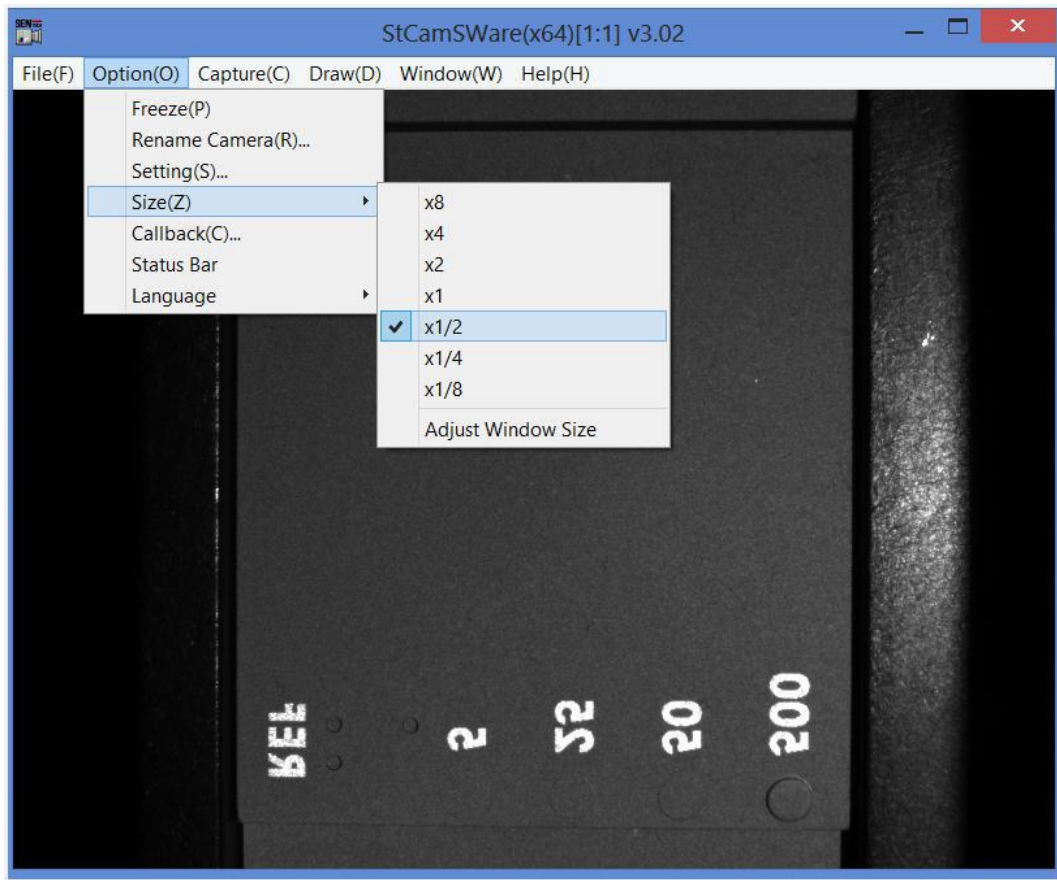

Figure 41 StCamSware Frame Size Setting
39. Next, Go to StCamSware, go to Option -> Size, Select “x ½” as below Figure 41.